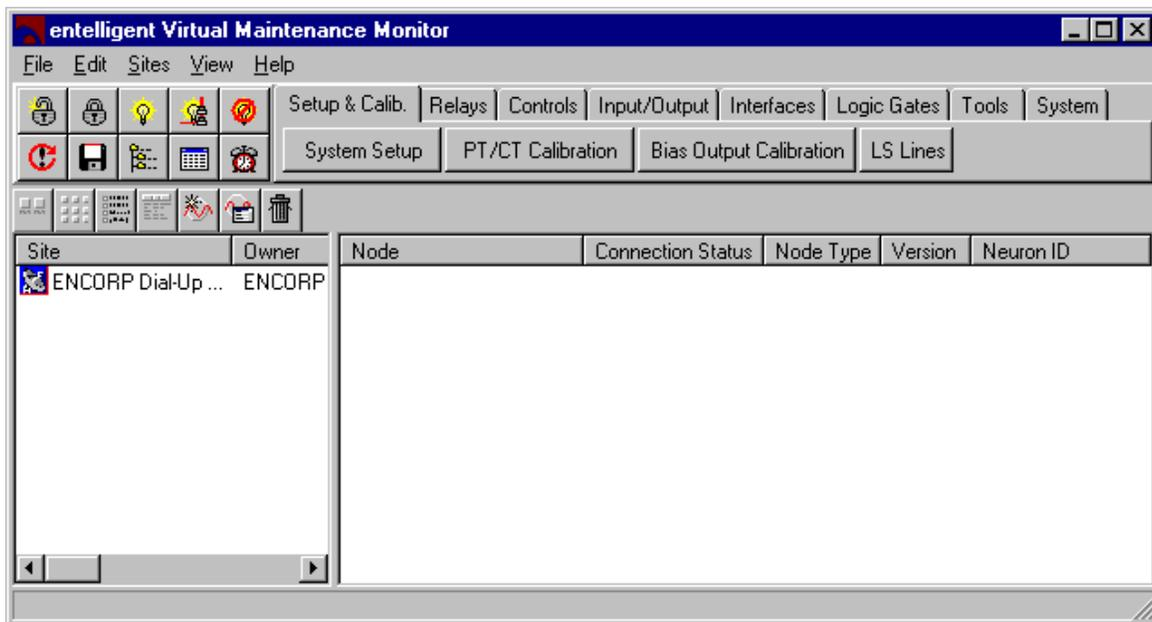

Figure 1-4 Site Displayed in User Interface
- The software will display the new site in the left pane of the user interface, as shown in Figure 1-4.
This screen capture shown in Figure 1-4 was taken after adding a new site. The software displays the site in the left pane of the user interface. All sites that you add will be displayed in this pane. You can choose to display sites in list format as shown here, or using larger icons. The software displays a vertical scroll bar if you add more sites than it can display at once.